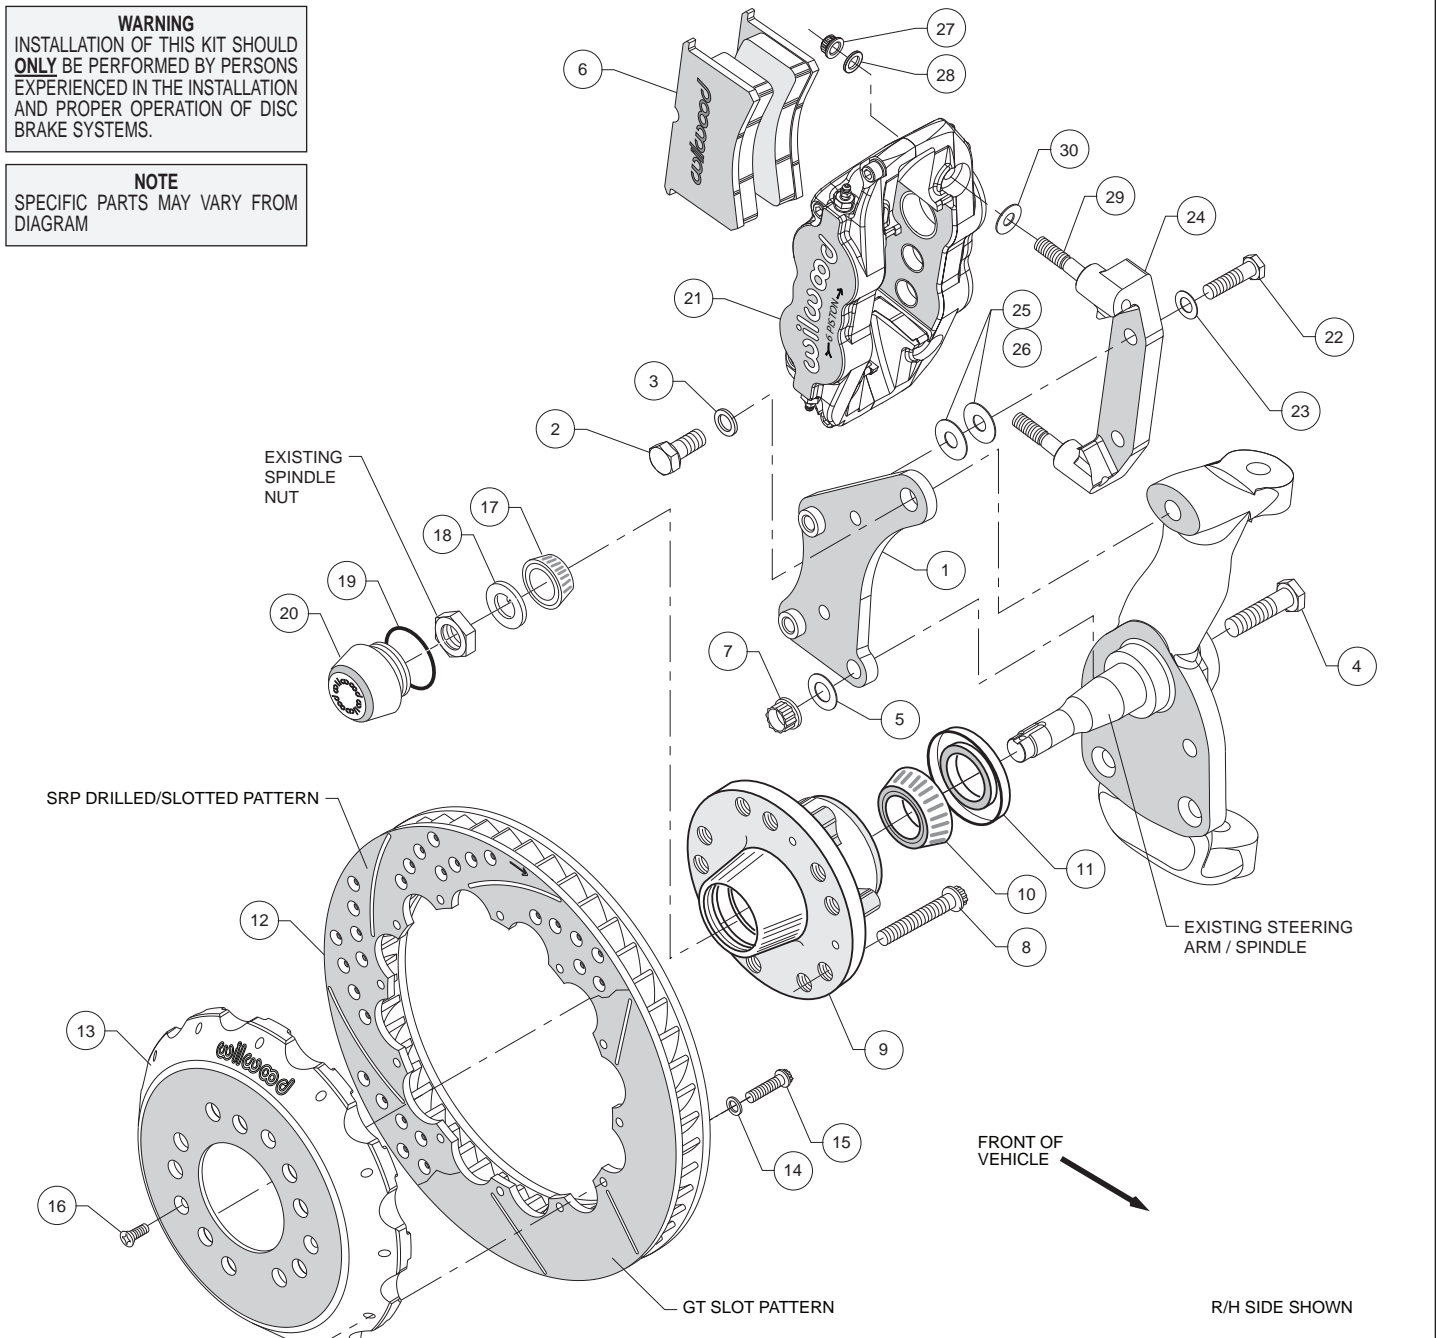

Figure 1. Typical Installation Configuration
- Mount the radial mount caliper bracket (24) to the first "flat" caliper mounting bracket (1) from the far side by sliding bolt (22) through washer (23). Place two .030 thick flat washers (26) between the two brackets (1 and 24) before sliding the mounting bolts (22) all the way into the first caliper mounting bracket (1). Finger tight only.
- NOTE:** This kit contains distinct right and left hand calipers that must be mounted in a specific direction, as described below. Lubricate caliper mounting studs (29) and nuts (27) with lightweight oil. Install one shim (30) over each stud (29) on the radial mount bracket (24). Slide the caliper (21) in place over the studs and rotors and install the washer (28) and lock nut (27) to hold the caliper in place, Figure 1. Ensure that the caliper is mounted so that the largest pistons are at the rotor exit end of the caliper, in relation to the direction of rotor rotation. Snug the lock nuts (27) and check that the rotor (12) is centered in the caliper (21). Add or subtract .030" shims (26), or add additional .015" shims (25), as necessary between the radial mount bracket (24) and the flat bracket (1) to center the caliper. Finger tighten and recheck alignment. Use as many shim washers (combination of 25 and 26) as necessary to achieve the correct alignment. Apply red *Loctite*® 271 to bolt threads (22) and torque to 60 ft-lb.